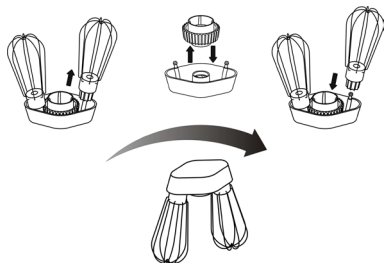

Fig. 3
- We recommend to disassemble the double whisk attachment for easy cleaning. Remove the whisks pulling upwards, remove the shaft gear, wash the parts with warm water and neutral detergent and dry them. Assemble the whisk in reverse sequence: install the shaft gear, then install the whisks (fig.3).
- Clean the motor unit (6) with a soft, slightly damp cloth and then wipe it dry.
- Provide that no water or detergent gets inside the motor unit (6).